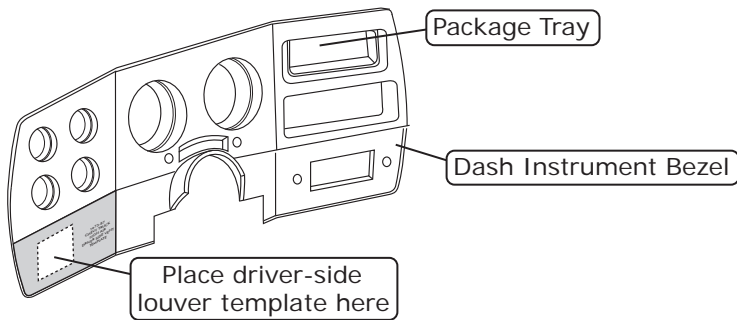

Figure 1
1. Using the driver-side louver template provided on Page 30, mark and cut the instrument panel bezel as shown in Figure 1, below.